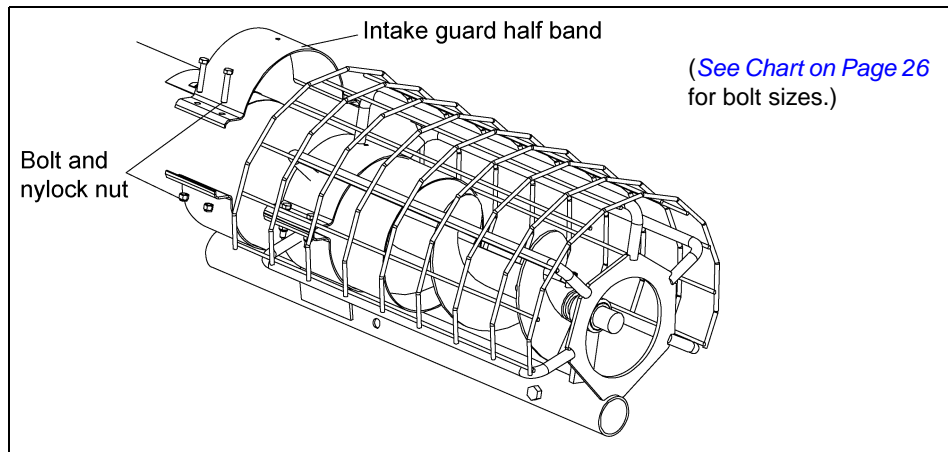

Figure 4Y
- Place intake guard half band above the lower half band on the intake guard and attach using proper hex bolts and nylock nuts. (See Chart on Page 26 and Figure 4Y.)